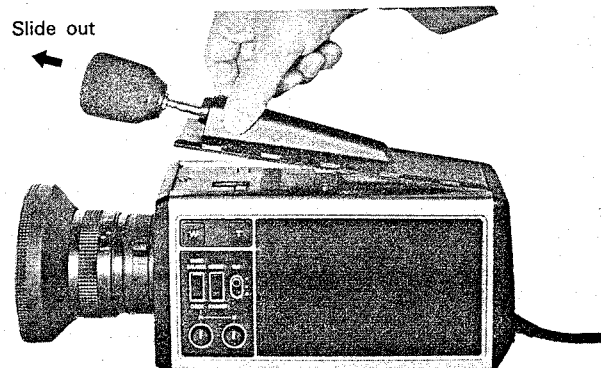
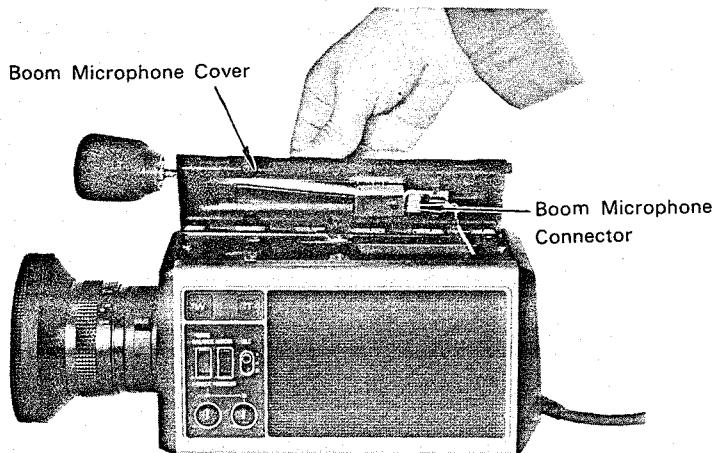

Fig. 2-1-3
Fig. 2-1-4
- Carefully lift up the front portion of boom microphone cover. (Fig. 2-1-3)
- Slide out a little the boom microphone cover forward with care until it unlocks from the rear cover (Fig. 2-1-3) and disconnect the boom microphone connector. (Fig. 2-1-4)